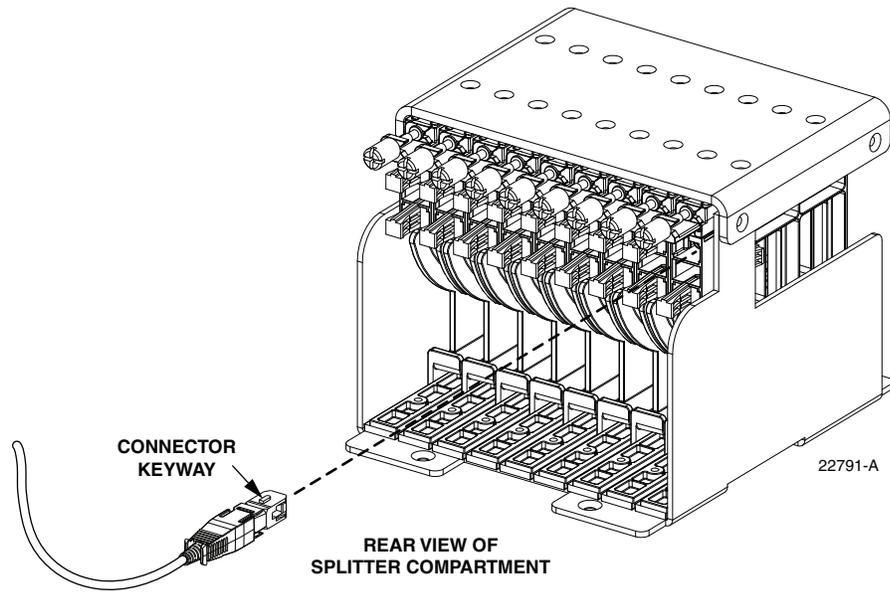

Figure 21. Feeder Cable Connector
8. Insert the feeder fiber connector into the appropriate bulkhead adapter (remove dust cap from adapter) at the rear of the splitter compartment as shown in Figure 21.